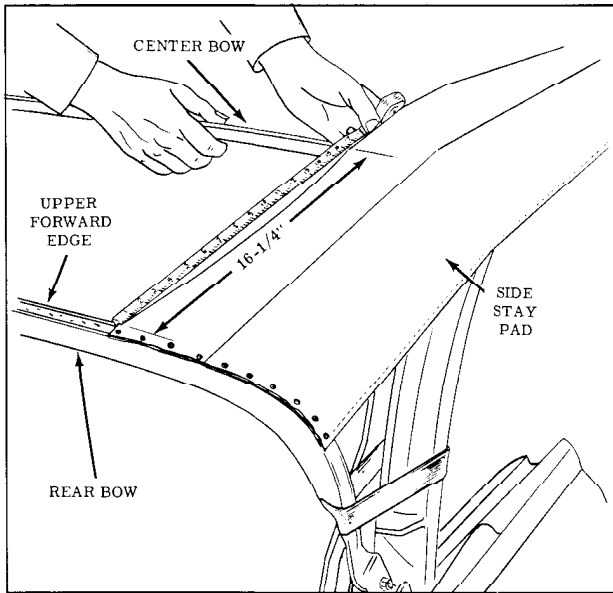

Fig. 17-127 Position of Rear Bow
4. Trim selvage end of side stay pads just forward of rear rolled edge of rear roof bow. (Fig. 17-127)
5. Distance from center of center bow to rolled forward upper edge of rear roof bow is 16-1/4" ($\pm 1/4'$). Readjust spacer sticks and side roof rail pads as required if rear bow does not come within this position range. (Fig. 17-127)